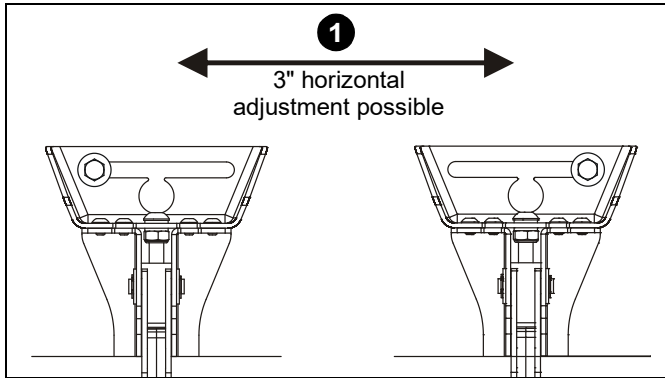

Figure 17
1. The mount wall brackets may be adjusted side to side at the point of attachment. (See Figure 17)